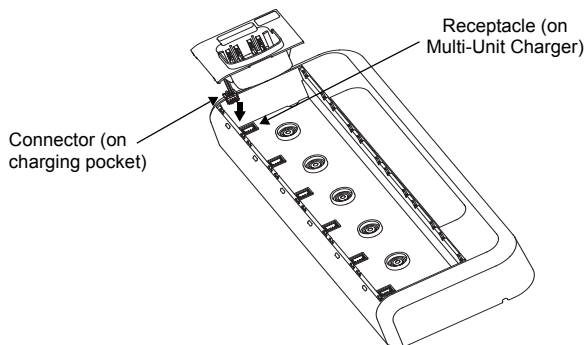

Figure 3: Securing Charging Pocket to Multi-Unit Charger
1. Connect Pocket Harness by plugging in the connector to the receptacle on Multi-Unit Charger (refer to Figure 3).